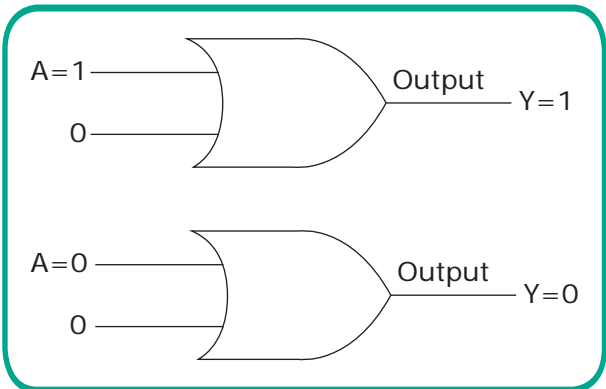

Figure 8.3 Logic gate representation of Theorem 1
**Theorem 1 ( $A+0=A$ ):** This theorem can be verified by ORing a variable A with a 0 and is illustrated in Figure 8.3. Here, one input to OR gate is always 0 and the other input A can be a value 1 or 0. When A is at 1, the output is 1 which is equal to A. When A is at 0, the output is 0 which is also equal to A (=0). Therefore, a variable ORed with 0 is equal to the value of the variable. This is easy to remember, since 0 added to anything does not affect the value of the variable, either in regular addition or OR addition.